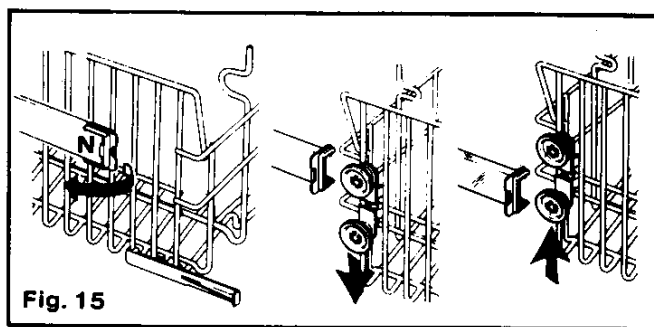

Fig. 15
The upper basket has two sets of wheels (Fig. 15) which enable it to be placed in the sliding rails in one of the two alternative positions depending on the size of the articles to be washed. To remove the basket turn back the stops (N) on the rails and pull the rack out. When replacing the basket, whilst it is advisable to manually relocate these stops, this will be carried out automatically when the door is closed.